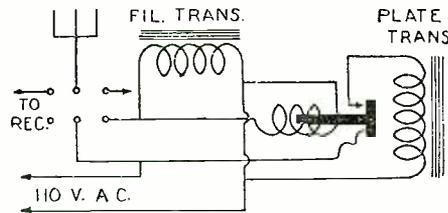

FIG. 2
1. *A Bushing for Vario-couplers.* Bend the whole piece in the shape of a "U," after drilling a 1/4-inch hole about 5/16 inches from the "T" end. The addition of a small coil spring makes a bushing almost identical with those used on a well-known commercial tuner. The method of assembly is shown in Fig. 2. This solves the most difficult problem in the construction of a home-made variocoupler.
When the current is turned on, the plunger rises so that the contact C meets the contact C', thus completing the plate circuit. The speed with which the switch acts depends upon the thickness of the oil used in the dash-pot, or it can be regulated by a resistance in series with the instrument. Connections for the switch are shown in Fig. 2.
Fig. 1 above shows how to connect a filter to obtain that much desired D.C. note. Fig. 2 shows how to filter a motor generator. Fig. 3 indicates the two worst possible keying connections; while Fig. 4 shows the very best of any that can be used. If you use a good filter and key properly, you will get out better and furthermore will not trouble the BCLs.